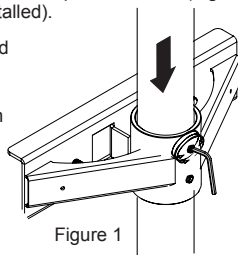

Figure 1
- Slide your mounting arm adapter bracket over the pole and base (Figure 1) (not included, but should be previously installed).
- Tighten the two (2) pre-installed M8 x 6mm set screws in the back of the MM-CB3 adapter bracket. Tighten with included allen key when in desired position.